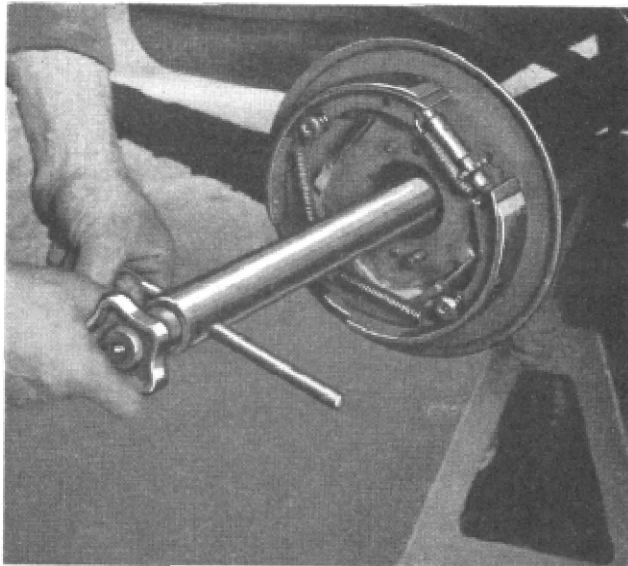

Figure 4
(9) If axle shaft is broken off in housing it can be removed by using broken axle shaft remover HM-540 (Fig. 4).